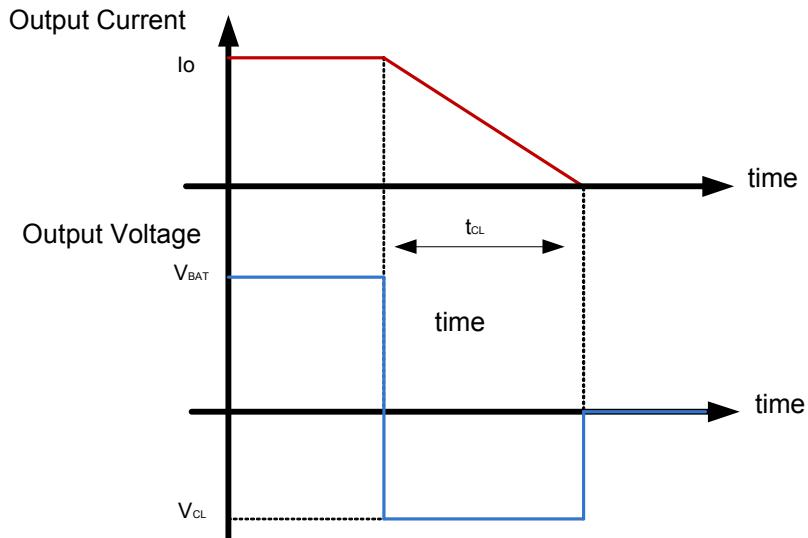

Figure 22. Simplified negative output clamp waveform
In case of an inductive load (L), the energy is dissipated after the turn-off inside the N-channel MOSFET. When $t_{\text{CL}} (=I_{\text{O}} \times L / V_{\text{CL}}) > 1.0 \text{ ms}$, the turn-off waveform can be simplified with a rectangle as shown in Figure 22.